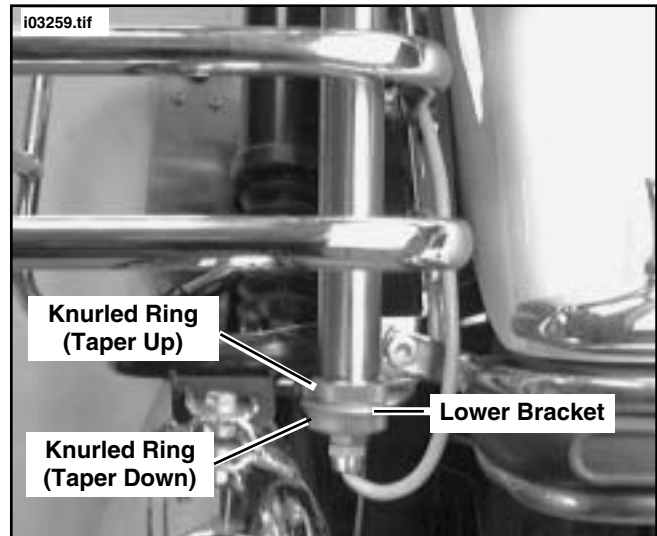

Figure 1. Pole Lamp Wiring (FLHTP Shown)
1. See Figure 1. Cut all but approximately 14 inches (254 mm) of wire off the pole lamp.